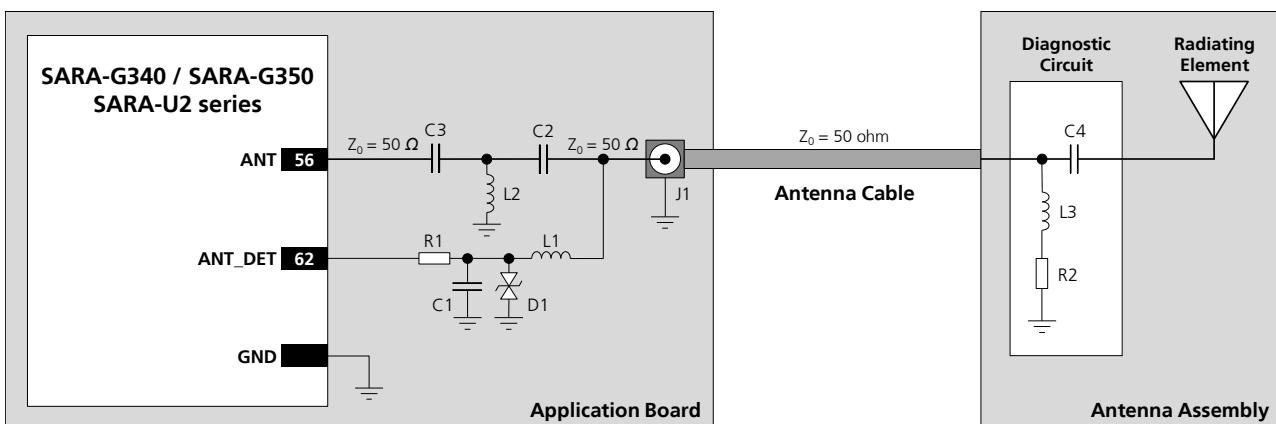
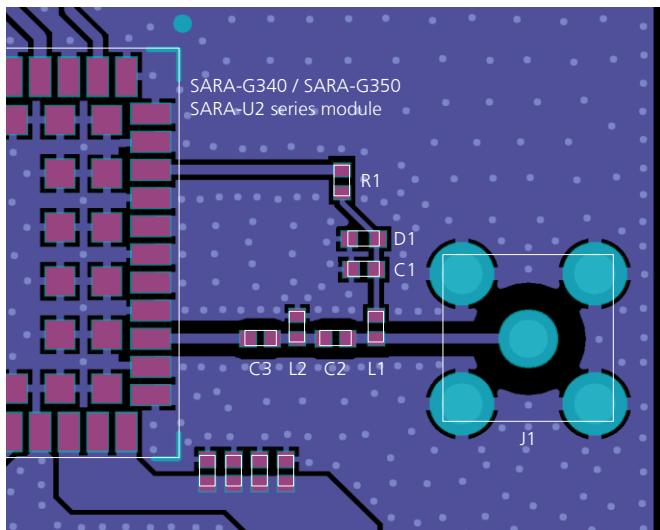

Figure 53: Suggested schematic for antenna detection circuit on application board and diagnostic circuit on antenna assembly
Figure 54: Suggested layout for antenna detection circuit on application board
Figure 53 and Table 35 describe the recommended schematic and components for the antenna detection circuit to be provided on the application board for the diagnostic circuit that must be provided on the antenna assembly to achieve antenna detection functionality.
The antenna detection circuit and diagnostic circuit suggested in Figure 53 and Table 35 are here explained:
- Additional components (R1, C1 and D1 in Figure 53) are needed at the **ANT_DET** pin as ESD protection.
- Additional high pass filter (C3 and L2 in Figure 53) is provided at the **ANT** pin as ESD immunity improvement for SARA-U2 modules (a series $0\ \Omega$ jumper can be mounted for SARA-G340 and SARA-G350 modules instead of the high pass filter, as no further precaution to ESD immunity test is needed).
The DC impedance at RF port for some antennas may be a DC open (e.g. linear monopole) or a DC short to reference GND (e.g. PIFA antenna). For those antennas, without the diagnostic circuit of Figure 53, the measured DC resistance is always at the limits of the measurement range (respectively open or short), and there is no mean to distinguish between a defect on antenna path with similar characteristics (respectively: removal of linear antenna or RF cable shorted to GND for PIFA antenna).
Figure 54 describes the recommended layout for the antenna detection circuit to be provided on the application board to achieve antenna detection functionality, implementing the recommended schematic described in the previous Figure 53 and Table 35.
The antenna detection circuit layout suggested in Figure 54 is here explained: